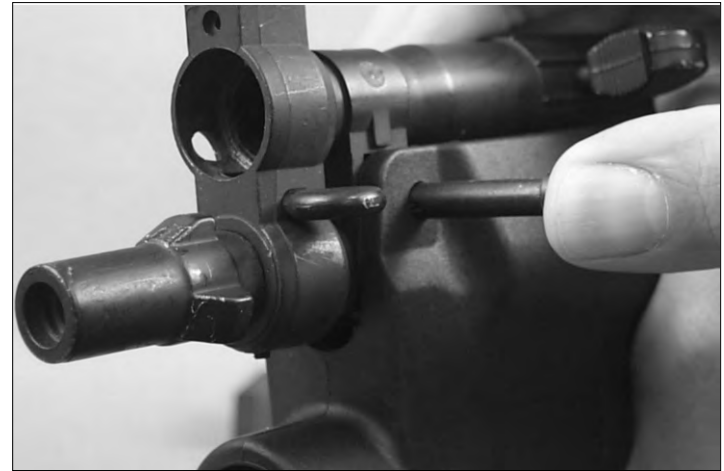

Figure 2
Step 3. Install the tactical light foregrip on the weapon. Insert the mounting pin supplied with the weapon. See Figure 2.